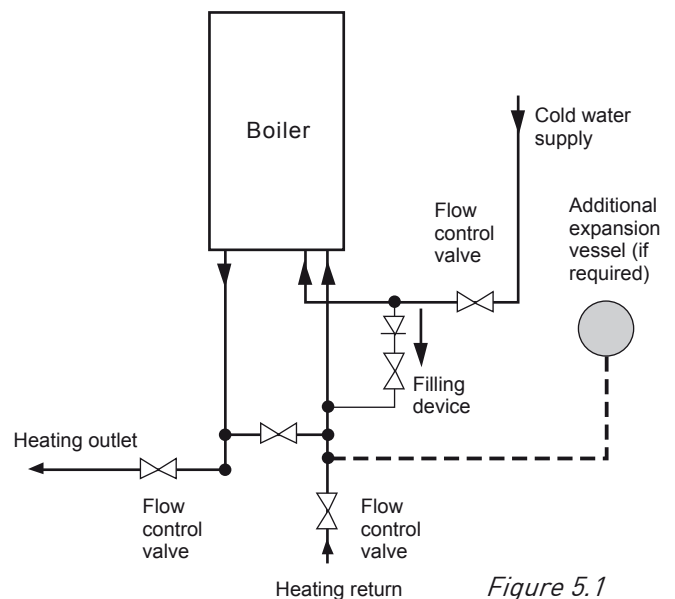

Figure 5.1
**5.3** The boiler's integral expansion vessel is pre-charged to a pressure of 1 bar and will accommodate a system volume of 125 litres. at an average water temperature of 75°C and maximum system pressure of 3 bar. If the system volume is more than 125 litres. an additional expansion vessel must be fitted to suit the size of the system. A typical installation of an additional pressure vessel is shown in Figure 5.1